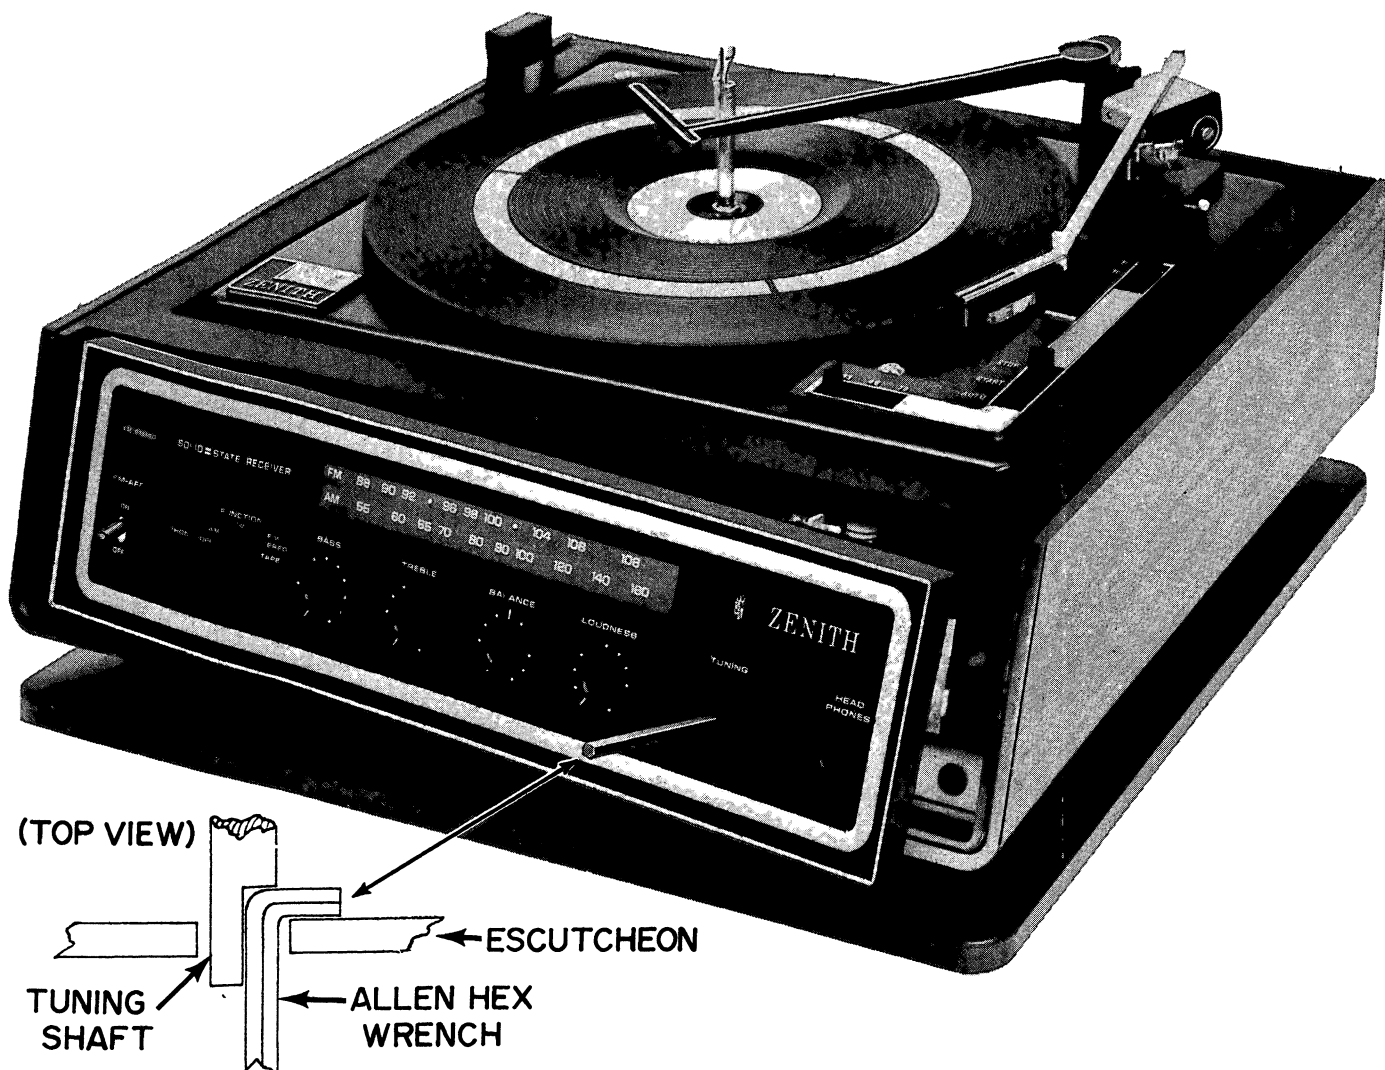

FIGURE 37 – ESCUTCHEON REMOVAL – GROUP "B"
Figure 37 illustrates the technique used:
3. Referring to the top view in Figure 37, insert the short end of a 1/8" (size may vary) "L" shaped Allen hex wrench between the shaft and the escutcheon.